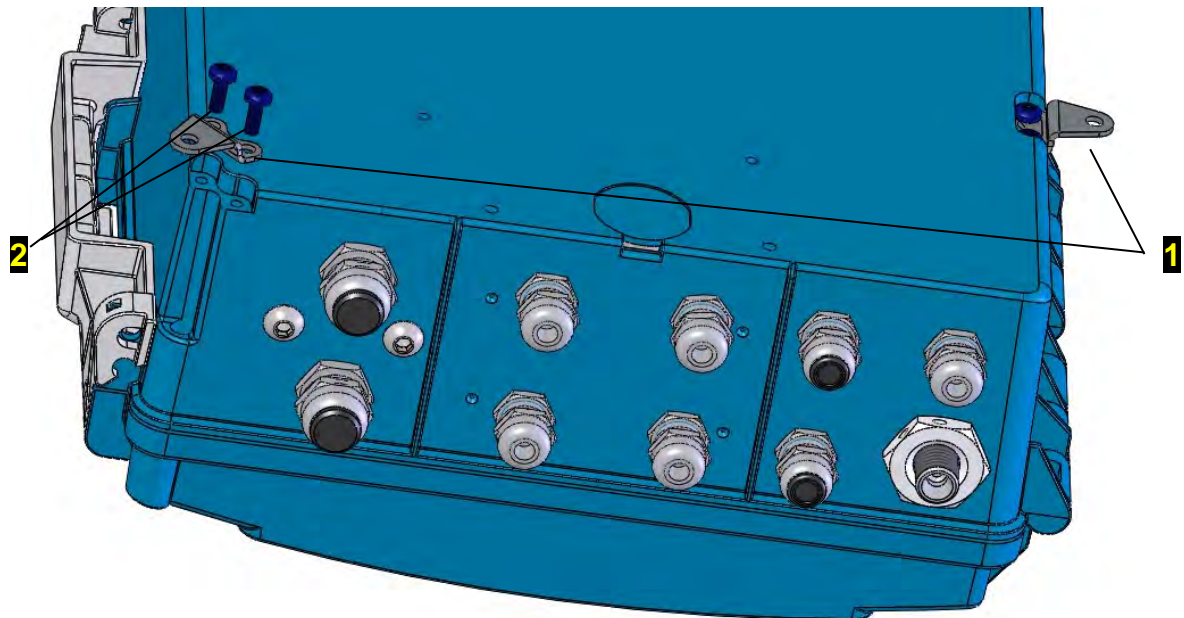
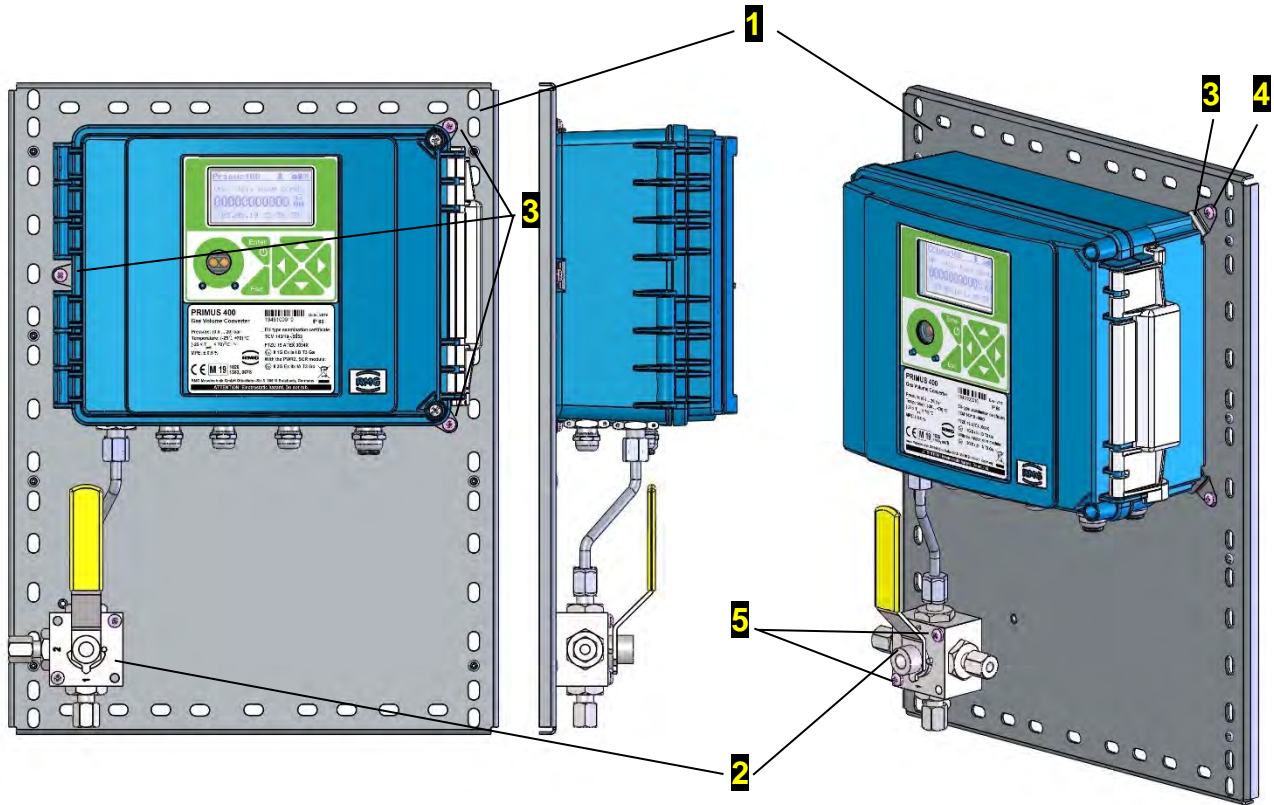

Fig. 4: Mounting the brackets on the device
Fig. 5: Mounting Primus 400 on a mounting plate
1. Before attaching the device to the mounting plate, first fit 3 pcs of brackets **1** using 3.5x12 self-tapping screws for plastic **2** supplied with the device onto the bottom side of the device (see Fig. 4).
2. Attach the device fitted with brackets **3** to the mounting plate using 3 screws M4x10 ISO 7045 **4** (Fig. 4, Fig. 5). The M4 rivet nuts are pre-fitted on the mounting plate.